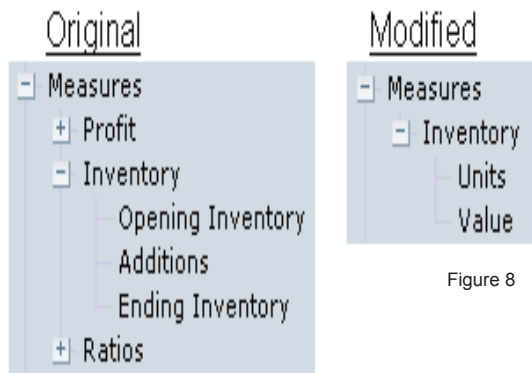

Figure 8
Step 4 - Update the “Measures” dimension. Let’s delete the “Profit” and “Ratios” members and replace the “Inventory” members as shown. We want to look at “Units” and the valuation of those units, called “Value”. (Figure 8)